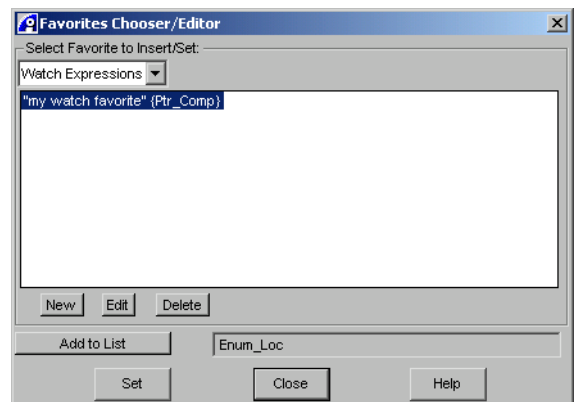

Figure 6-18 Existing watches in the Favorites Chooser/Editor
The Favorites Chooser/Editor dialog box is displayed with the newly-created watch shown in the display list (shown in Figure 6-18). See *Using the Favorites Chooser/Editor dialog box* on page 8-29 for details.
2. Right-click on the Name and select **Add from Favorites...** from the **Name** menu. This displays the Favorites Chooser/Editor, shown in Figure 6-18.